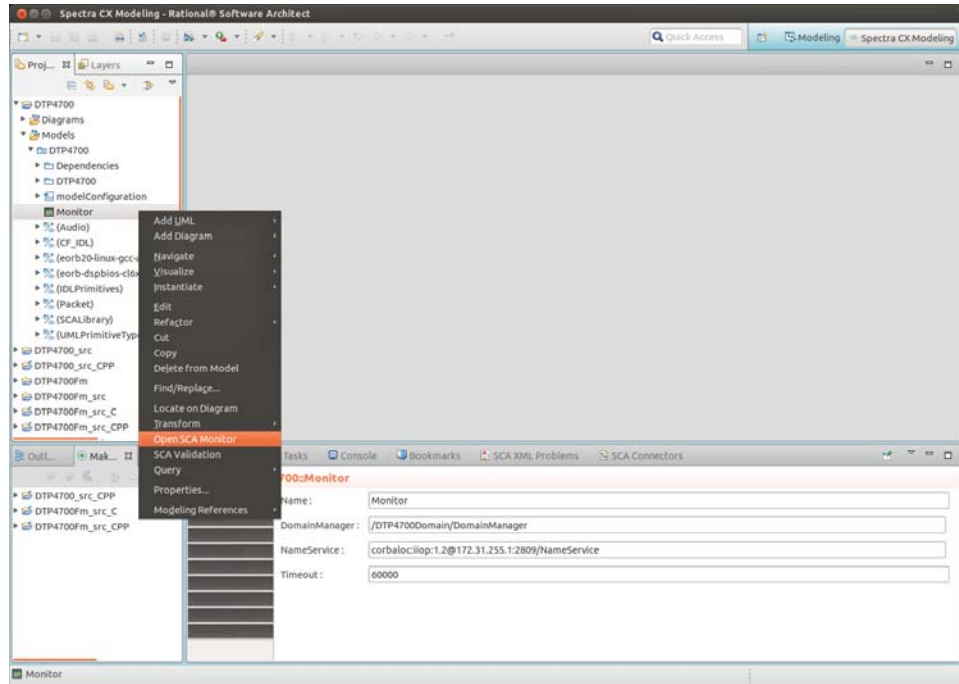

Figure 49 Opening the SCA Monitor
Step 2: Choose **Open SCA Monitor** (see *Figure 49*).